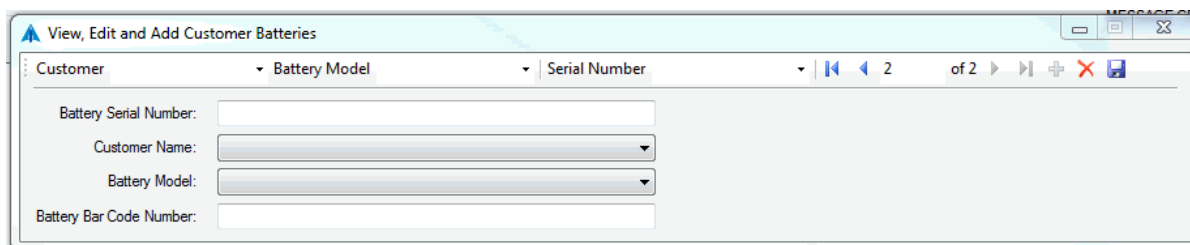

Figure 29 – View/Edit/Add Customer Battery Screen
- From the Work Orders pull-down menu select New Customer Battery and enter the Customer Battery Information - see [Figure 29].